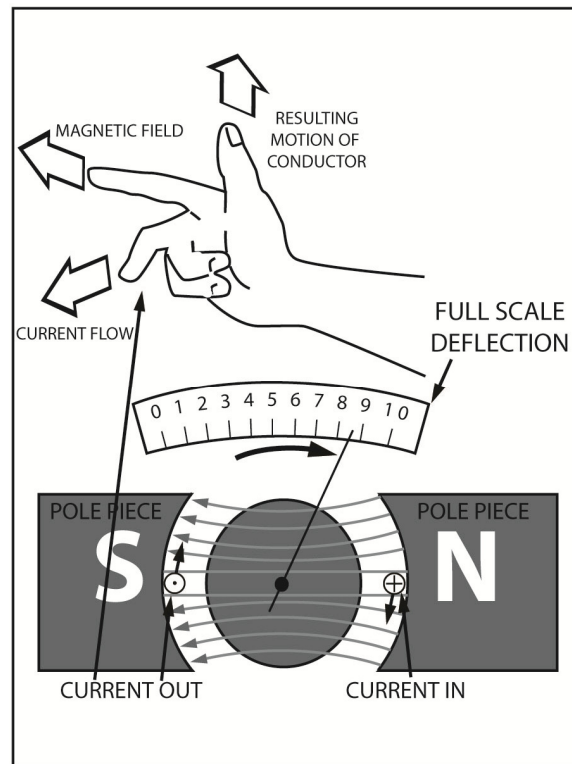

Fig. 7.5
Next, we'll discuss the meter's operation. In a previous section, you learned that a conductor is deflected at a right angle to a stationary magnetic field if current flows through the conductor. This is the principle behind the DC motor. The right-hand motor rule was also discussed. Figure 7.5 illustrates this rule and the motor action which causes the meter to deflect. The end view of one turn of the moving-coil is also shown. Current is forced to flow through the coil so that it flows, out of the page, to the left. Applying the right hand rule to the coil at this point, we find that the coil is forced up on the left and down on the right. This forces the pointer to move up scale or in clockwise direction.
In Figure 7.5, an important characteristic of the d'Arsonval meter movement is illustrated. Let's assume that the current is always flowing in the same direction through the moving coil. That is, a direct current (DC) is applied to the coil. This movement works fine as long as the current is direct. But, the movement won't respond correctly to alternating current (AC). Whenever the current reverses, the coil attempts to reverse its direction of deflection. If the current changes direction more than a few times each second, the coil cannot follow the changes. Therefore, you must not apply AC to this type of meter movement.